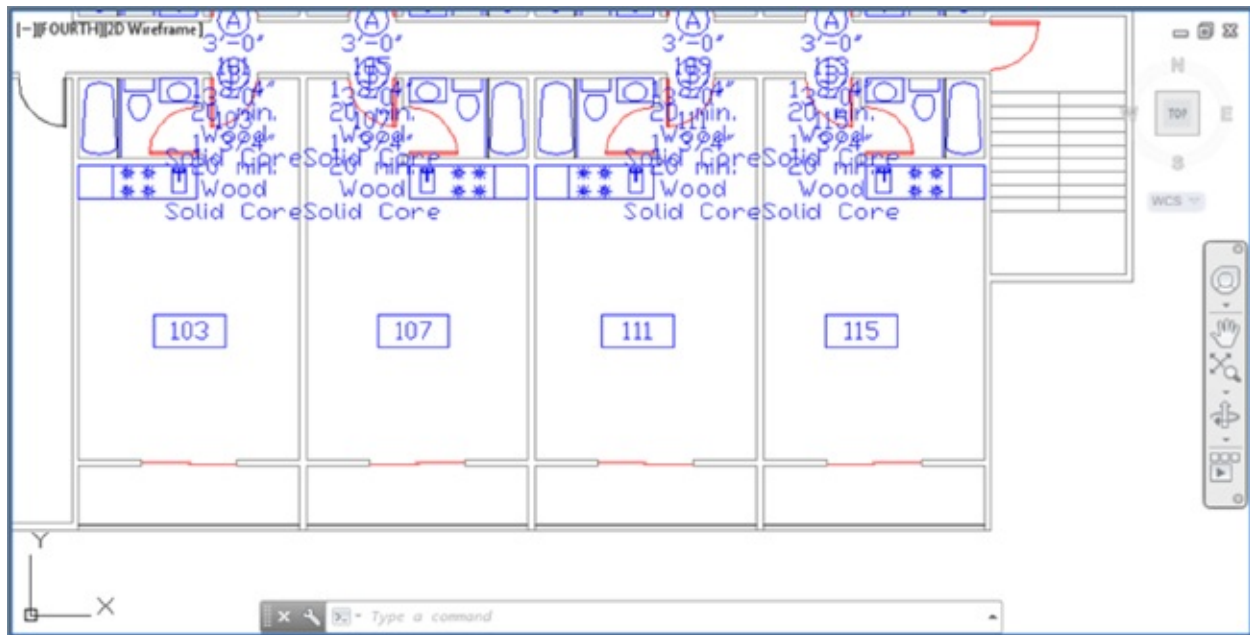

FIGURE 12.12 The drawing with all the attributes visible. (Door-type symbols are so close together that they overlap.)
1. On the Insert tab's expanded Block panel, click the Retain Display flyout and select Display All Attributes. You can also enter **Attdisp** \leftarrow **On** \leftarrow . Your drawing looks like Figure 12.12.